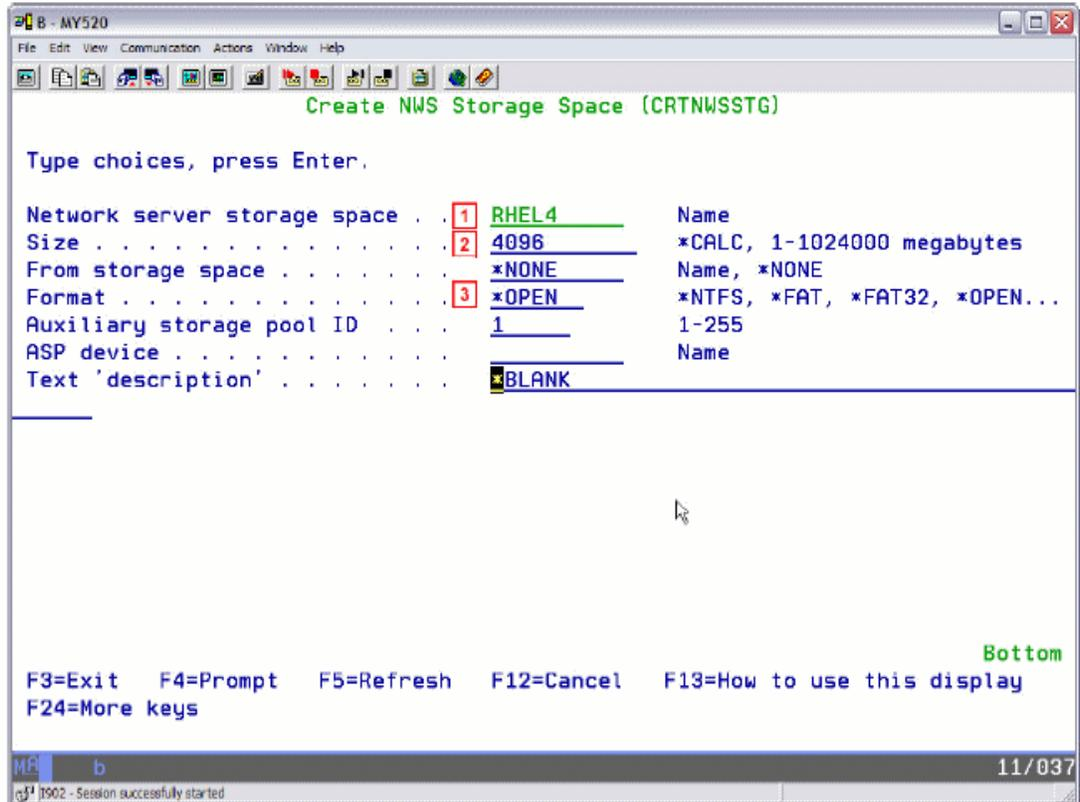

Figure 13-28 Create Server Storage Space
1. Type the Create Network Server Storage Space command, **CRTNWSSTG**, which creates the Network Server Storage Space. Entering the command displays Figure 13-28.